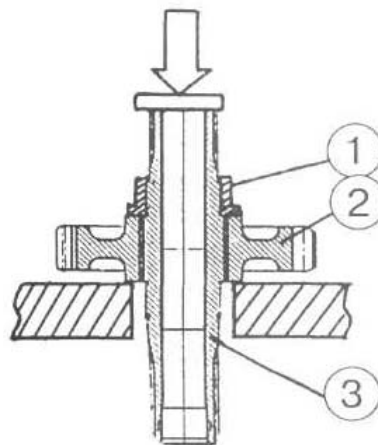

Figure 4.113
g) using gear 2 (Figure 4.113) and stand press off shaft 3 internal shell 1 of bearing;